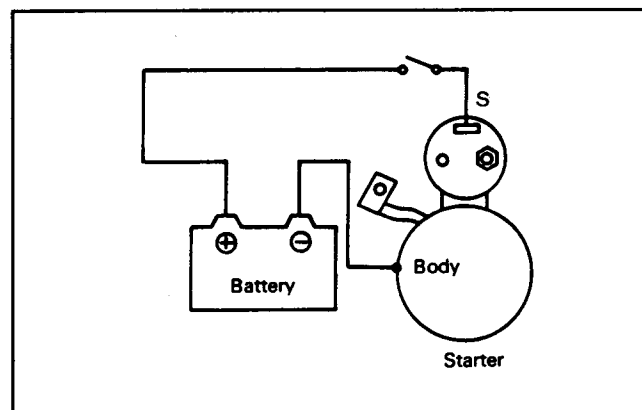

Figure 24
1. Disconnect the wire from terminal "M" (Fig. 24).